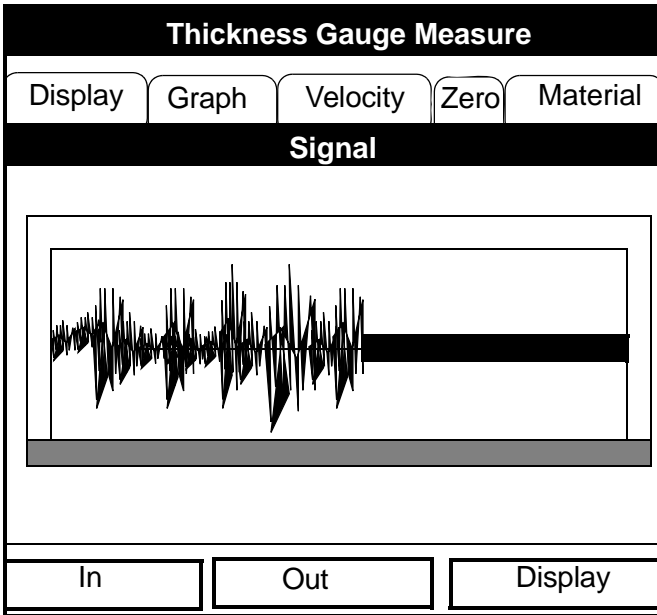

Figure 111: Graph Window in Zoom Format
Press [F2] (Cancel) or [F3] (OK) to return to Operate Mode, or press the [▶] arrow key to move to another window in the option. However, if you wish to adjust the graph, press the [▼] key. The screen now appears similar to Figure 111 on page 164.